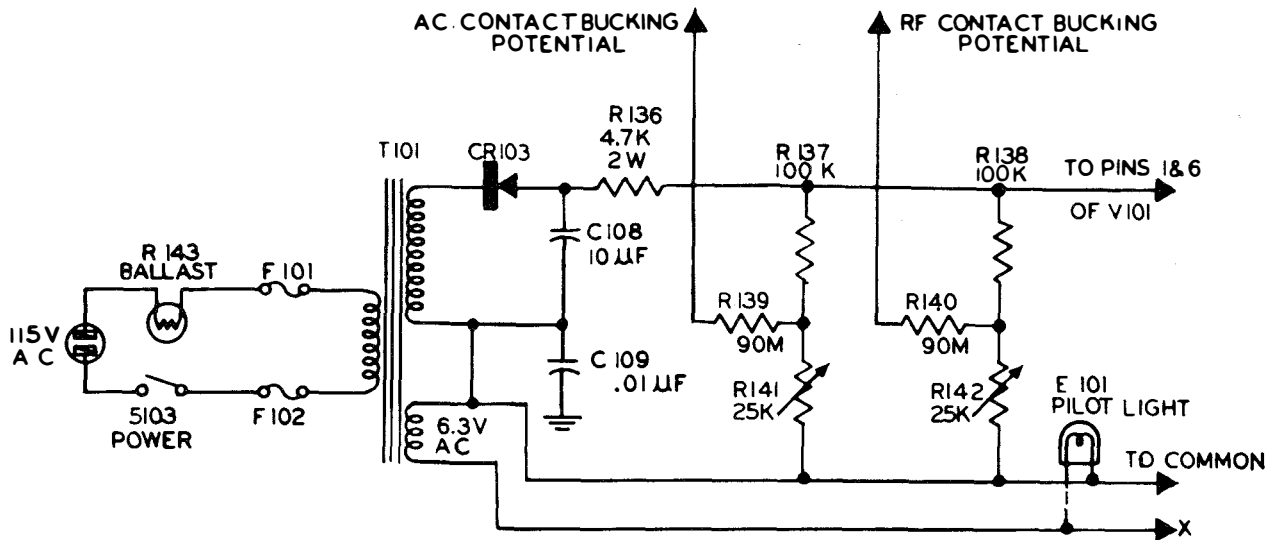

Fig. 2-8. POWER SUPPLY
g. POWER SUPPLY CIRCUIT. (See Fig. 2-8)